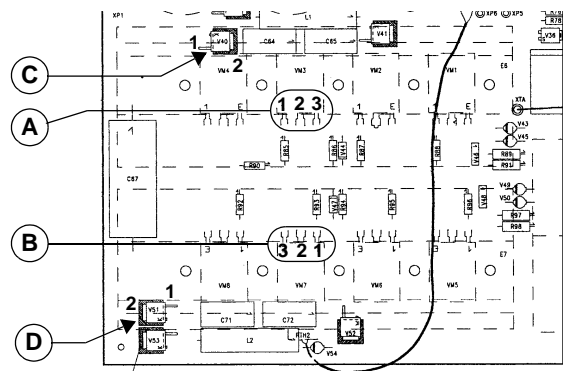
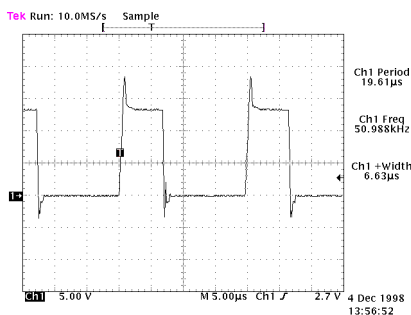

FIG. 4 - C.E. RIF. 1 MOD. CE22541
FIG. 7
2. Mosfet of the primary circuit and diodes of recycle: test points 1-2, 1-2, 2-3 of components A and B; points 1-2 of components C and D (fig. 4).
(probe) (fig. 4) of the waveform shown in fig. 7: if the waveform differs from the one in the figure or there is no wave form, the electronic circuit is broken.